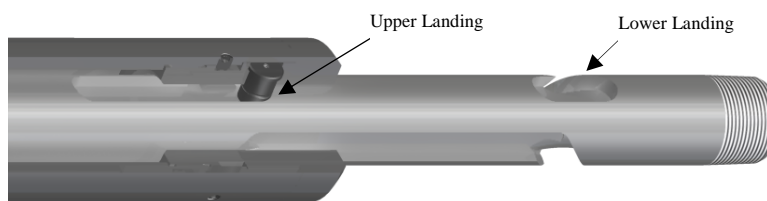

Fig. 7
L-4.25) Rotate and move J-slot mandrel (20) downwards to move J-pins (15) to upper landing in slot on J-slot mandrel (20) (Fig. 7).